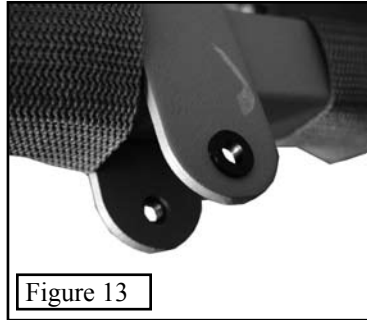
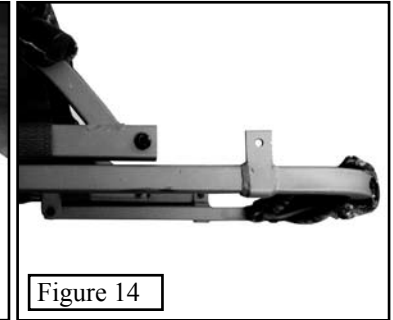
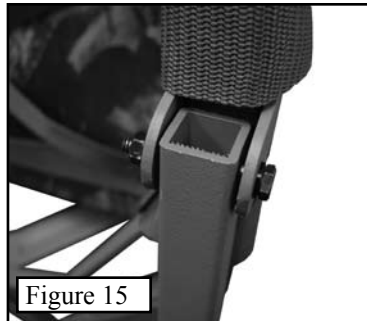
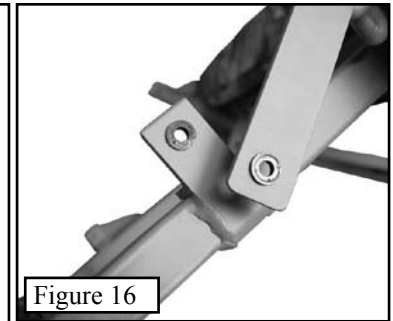

Figure 13
Figure 14
Figure 15
Figure 16
**Climbing Bar Attachment (Razor SS Only).** Please refer to the back of this booklet for diagrams and parts descriptions. Place 4 long shank bushings into the four holes in the ends of the supplied climbing bar as shown in **Figure 12**. Place two short shank bushings in the holes on the outside of the U bracket attached to the climber portion of the stand - repeat for other side - shown in **Figure 13**. **Position the climbing bar so that the small welded-on bracket is facing up (Figure 14)**. Slide the climbing bar ends into the U brackets and secure with one 2” bolt and one lock nut per side - Shown in **Figure 15**. Place two short shank bushings in the outside of the remaining bracket on the climbing bar as shown in **Figure 16**. Insert the remaining short shank bushings into the hole on the bar support struts - One per strut. Secure the support strut to the bracket using the 3/4” bolt